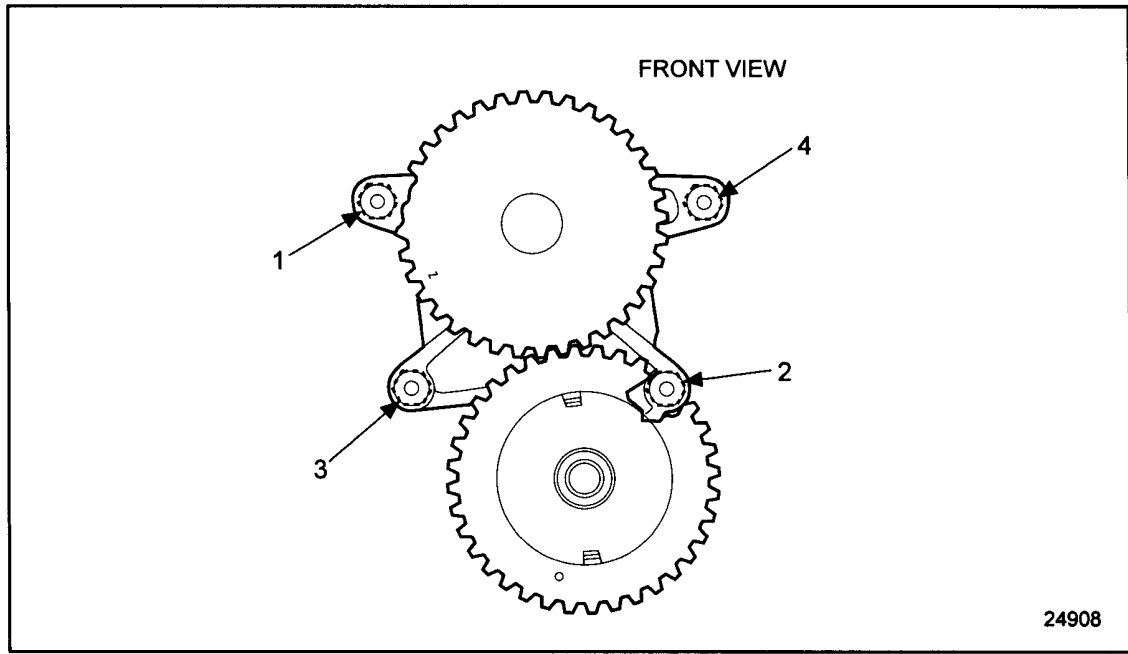

Figure 3-12 Oil Pump Torque Sequence
14. Before attaching the balance shaft assembly to the block, make sure the timing marks are aligned correctly. See Figure 3-12.